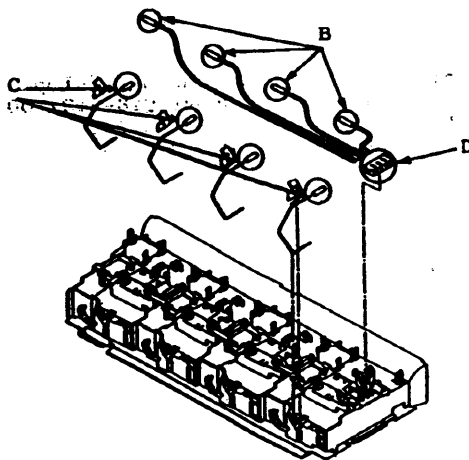

Figure 2: Ink supply tubes
2. Rubber joint 16mm : B in Figure 2, QB1-0150
3. Rubber joint 10mm : C in Figure 2, QB1-0163
4. Supply joint (A) : D in Figure 2, QB1-0166